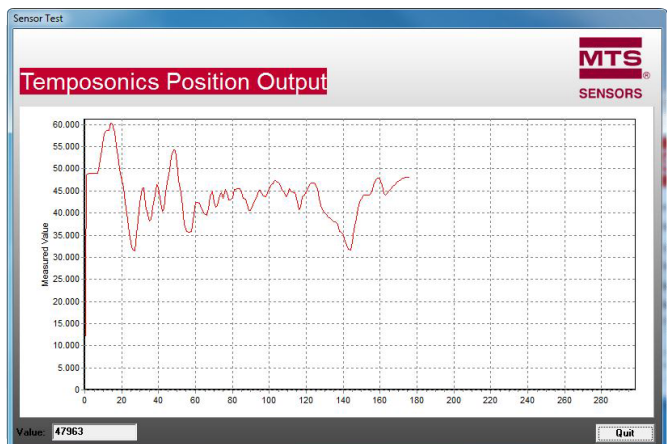

Fig. 32: Data display
- 4 Menu **Test Sensor** provides a data display (Fig. 32), which shows the absolute position of the position magnet. Compared with the sensor measuring rate, the serial data transmission between sensor and PC is relatively slow, i.e. not every measured value can be displayed. For this reason, only every 50th measurement value appears in the diagram.